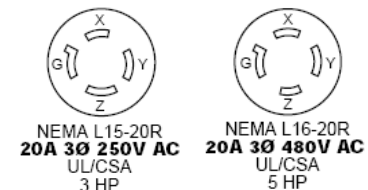

Figure 1: Plug Terminal Hook
3. Connect the 3Ø 230V, 60hz electrical power (Allowable range for the 230V Wils-Tronic is 3 phase, 180 to 264 Volts, 48 to 62 Hz) as shown in Table 1 to the receptacle using the diagram that comes with the plug and shown in Figure 1. Do not plug in the Wils-Tronic power cable into the receptacle at this time.